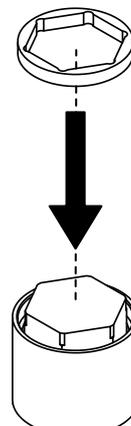

Fig. 12.9
- Fig. 12.9 Slide the second spacer (3556) onto the hexagon bar to align the spacer profiles